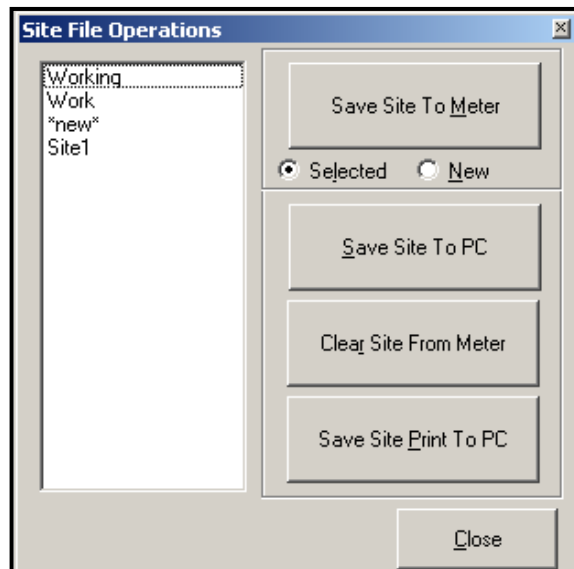

Figure 30: The *Site File Operations* Window
To access site files, click on the *Site Files* button in the *Properties* window. The *Site File Operations* window (shown in *Figure 30* below) opens.
1. Highlight the desired site in the left pane. (See *Figure 30 on page 98*.)
1. Highlight the site in the left pane. (See *Figure 30 on page 98*.)